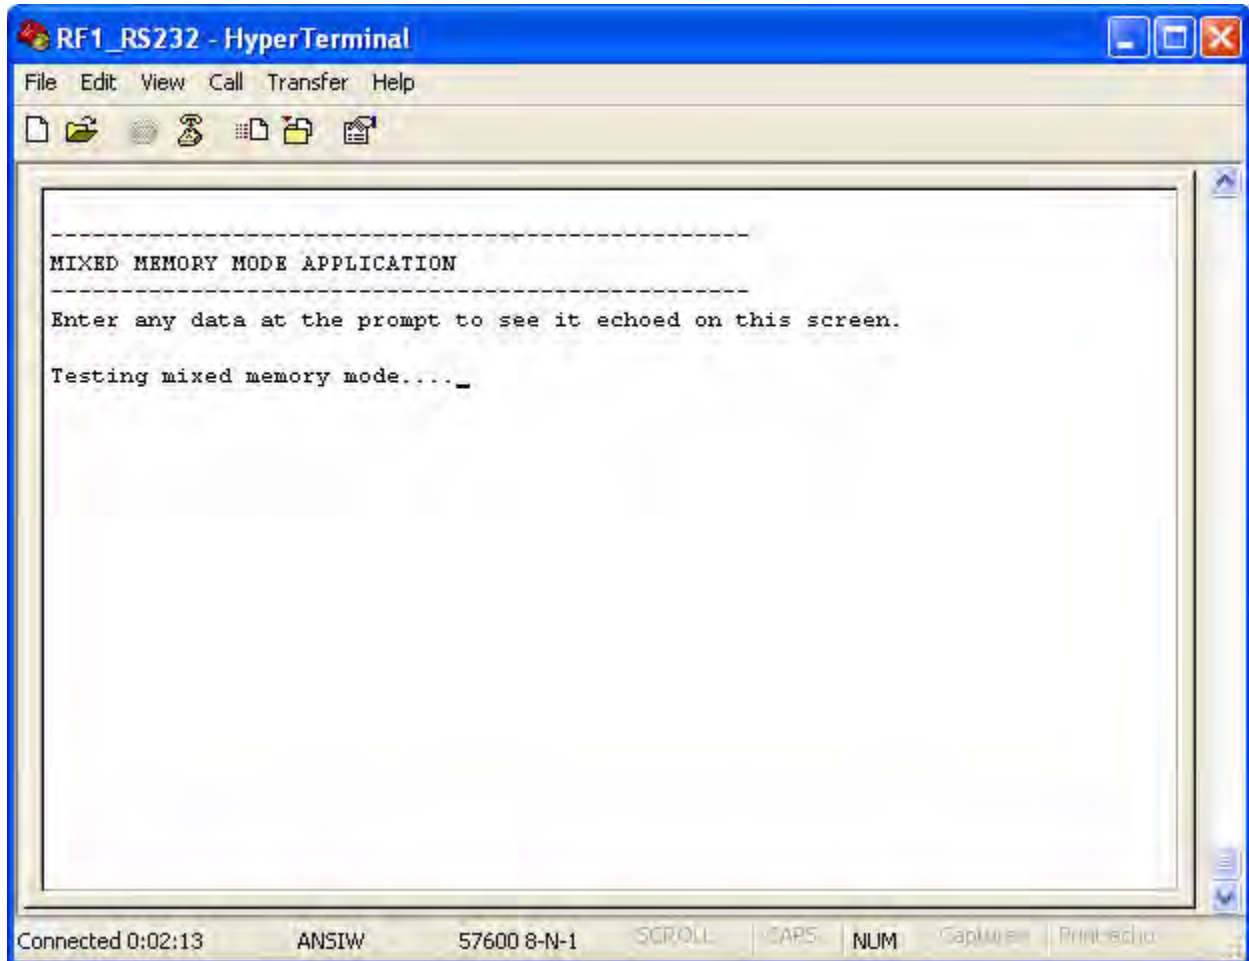

Figure 10. User Input in HyperTerminal
4. With your keyboard, enter any character string into HyperTerminal. The verbatim string should display in (i.e., be echoed back to) the HyperTerminal window, as indicated in Figure 10.